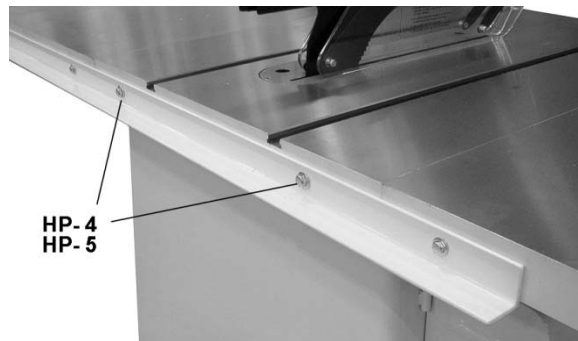

Figure 4
3. Secure back rail to pre-tapped holes in saw table with two 5/16 screws and flat washers (**HP-4/5**), as shown in Figure 4. Tighten screws securely with 1/2" wrench.